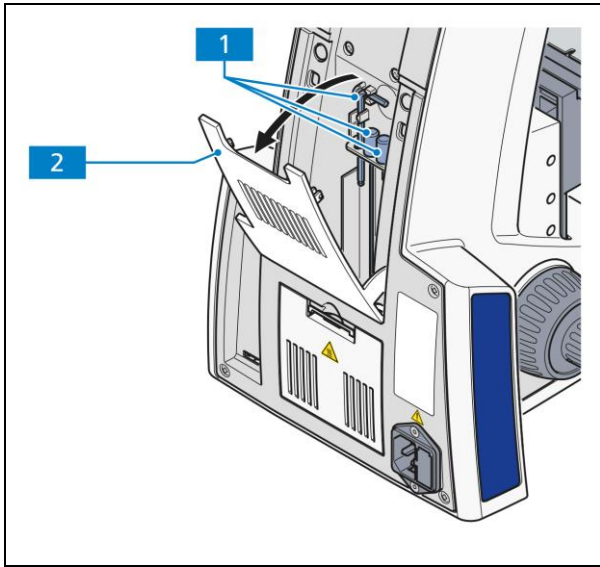

Fig. 3-2 Placing tools in the storage compartment
- The tools (Fig. 3-2/1) required for set-up and adjustment of the microscope are located in the storage compartment (Fig. 3-2/2) at the back of the stand.